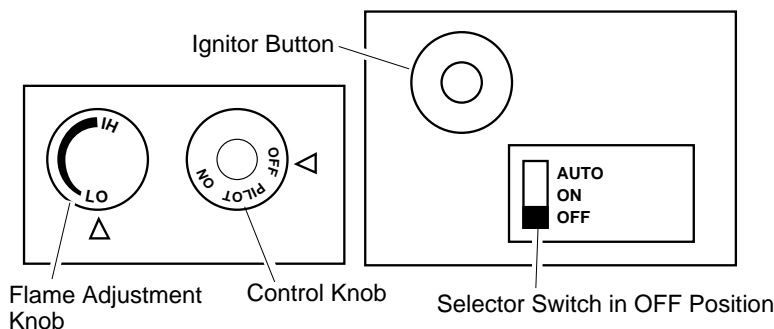

Figure 36 - Control Knob and Ignitor Button Location (Shown as Supplied, No Control Options)
5. Wait five (5) minutes to clear out any gas. Then smell for gas, including near the floor. If you smell gas, **STOP!** Follow "B" in the safety information. If you don't smell gas, go to the next step.
6. Press in and turn control knob counterclockwise to the PILOT position. Press in control knob for five (5) seconds (see Figure 36).